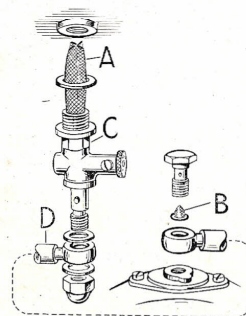

FIG. 10.
is intermittent, or none at all, lay the Ariel 3 on its right side, disconnect the pipe at the tap and unscrew the tap complete. Clean the filters (A) and (B), tap (C), and pipe line (D) Fig. 10, and replace. (See also "Carburettor Jet").